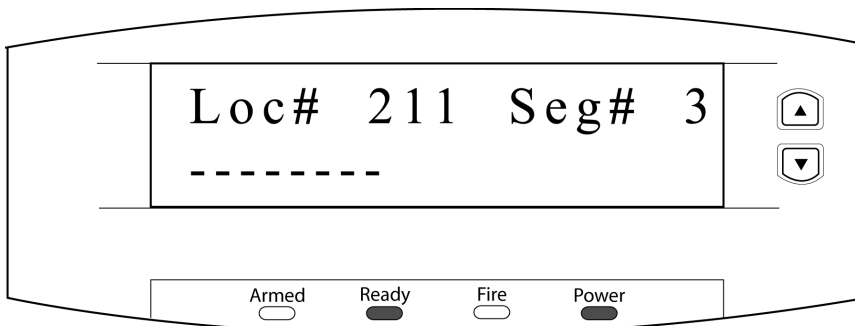

Figure 13: Alarm Panel - Location 211, Segment 3
6. Select the **\*** key to save the selection and move to the next segment. For Location 211, Segment 3, all numbered options must be toggled to the OFF position. Once completed, the LCD will look similar to Figure 13.